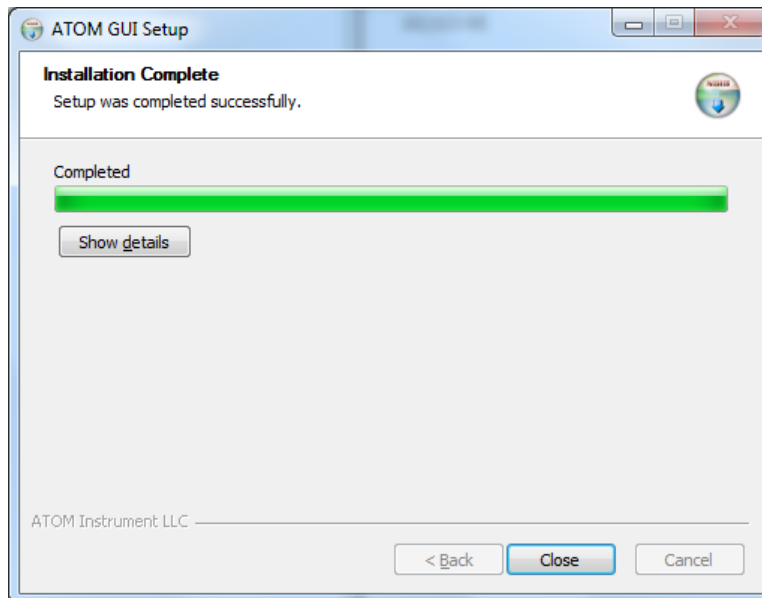

Figure 3.11
4. Once the installation is complete (~ 1 - 2 mins), click **Close** (*Figure 3.11*)